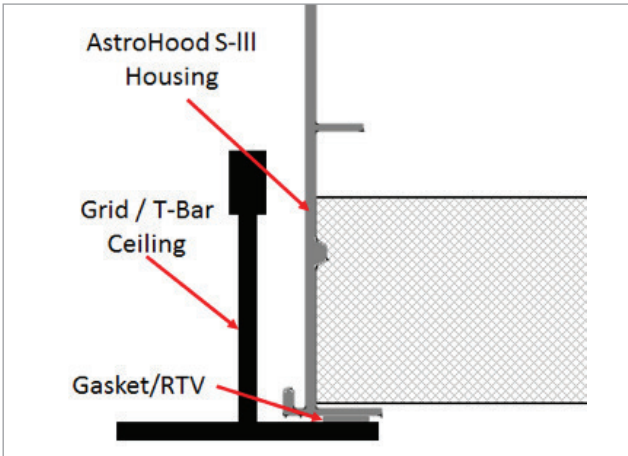

Fig 02: Mount for Gasket Grid / T-Bar Ceiling
- 3. Center and lower the AstroHood unit into the opening and seat the unit onto the grid/T-bar. Apply uniform pressure to ensure the flange is bonded to the grid/T-bar (see Fig. 02).